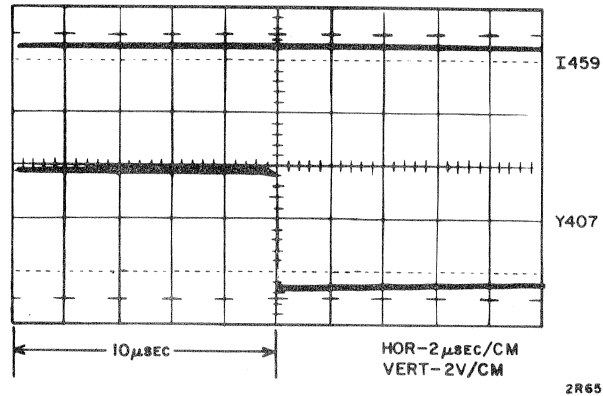

Figure 6-26. Head Select Timing
- c. Make oscilloscope settings and trace comparisons according to Figure 6-26. As the 1-track repeat cycles, adjust the potentiometer shaft of Y407 until its output pulse is delayed by 10 μ sec with respect to the "0" output of I459.